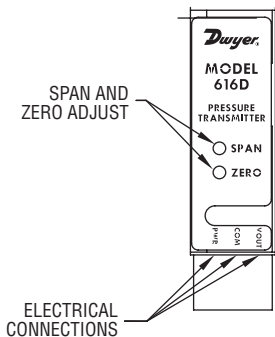

Figure 1: Electrical Connections
1. Location: Select a clean, dry mounting location free from excess vibration where the temperature will remain between 14 and 185°F (-10 to 85°C). Distance from the receiver is limited only by total loop resistance. See electrical connections in Figure 1. The tubing supplying pressure to the instrument can be practically any length required, but long lengths will increase response time slowly.
Electrical Connections are made to the terminal block located in front of the transmitter. Terminals are marked PWR, COM, and VOUT. (See Figure 1 below)